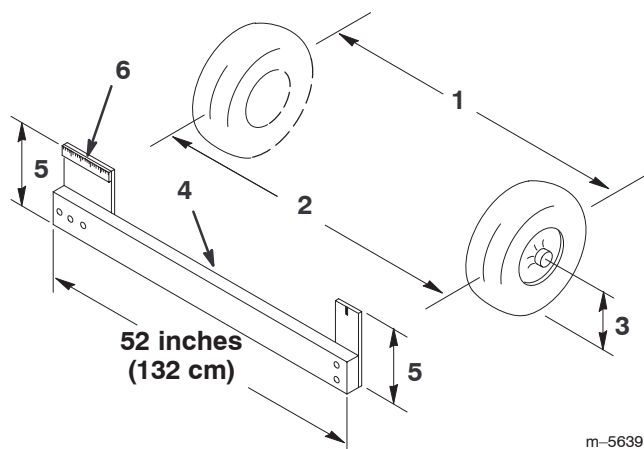

Figure 34
2. Measure the distance between both of the front tires at the axle height at both the front and rear of the front tires (Fig. 34). A fixture or alignment gauge is needed for the rear measurement of the front tires at axle height. Use the same fixture or alignment gauge to accurately measure the front of the front tires at axle height (Fig. 34).